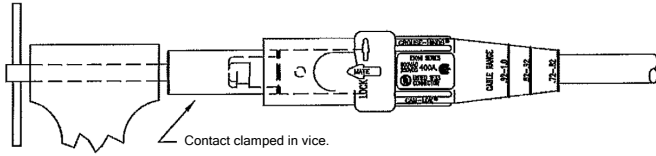

Figure 15
1. Place contact into vice and tighten down. See Figure 15.